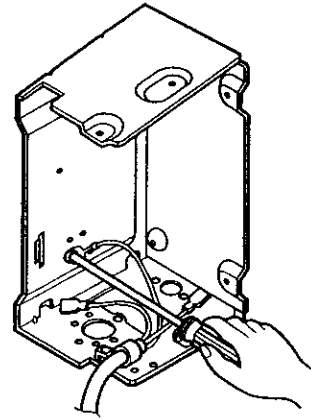

Figure 34
2. Disconnect the grounding screw from the control box. (See Figure 34)